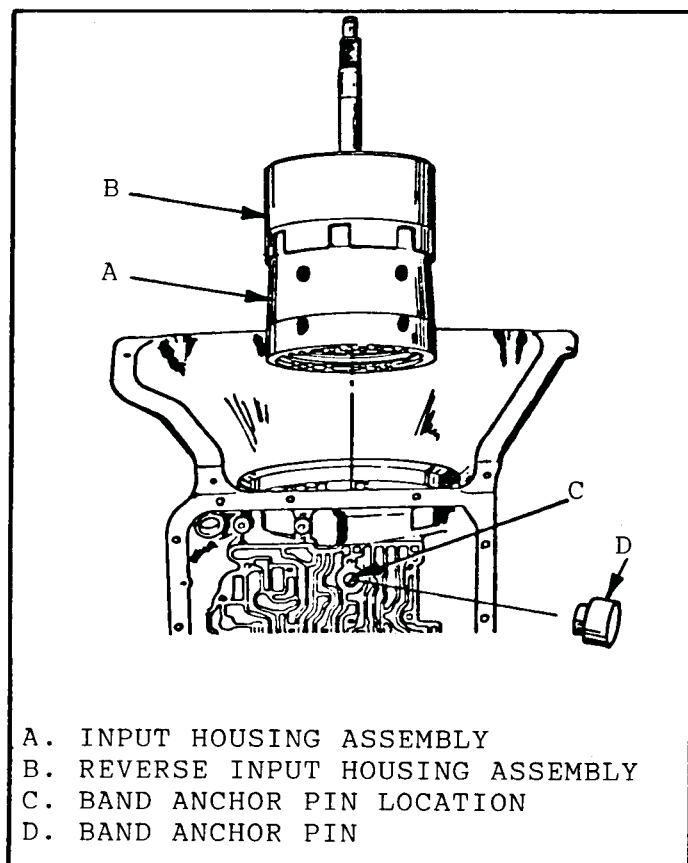

Figure 95
3. Install the band anchor pin into the case (See Figure 95).